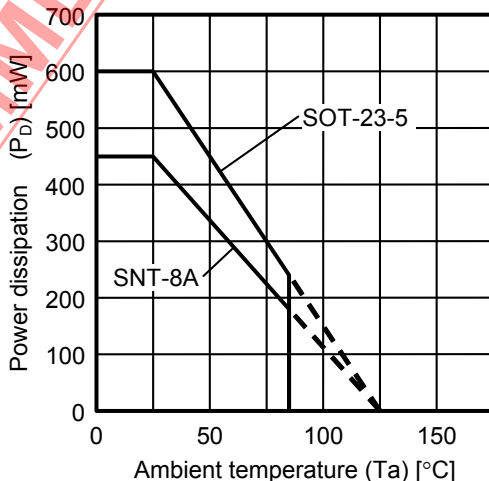

Figure 5 Power Dissipation of Package (Mounted on Board)
2. Since this IC has a built-in power MOS FET, make sure that dissipation of the power MOS FET does not exceed the allowable power dissipation of the package. (Refer to Figure 5.) Generally, dissipation of a switching regulator can be calculated by the following equation.